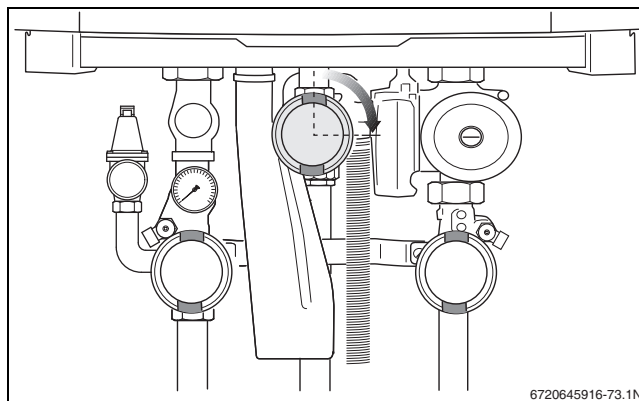

Fig. 75 Closing the gas valve
- Close the main gas supply or the gas valve (→ fig. 75).